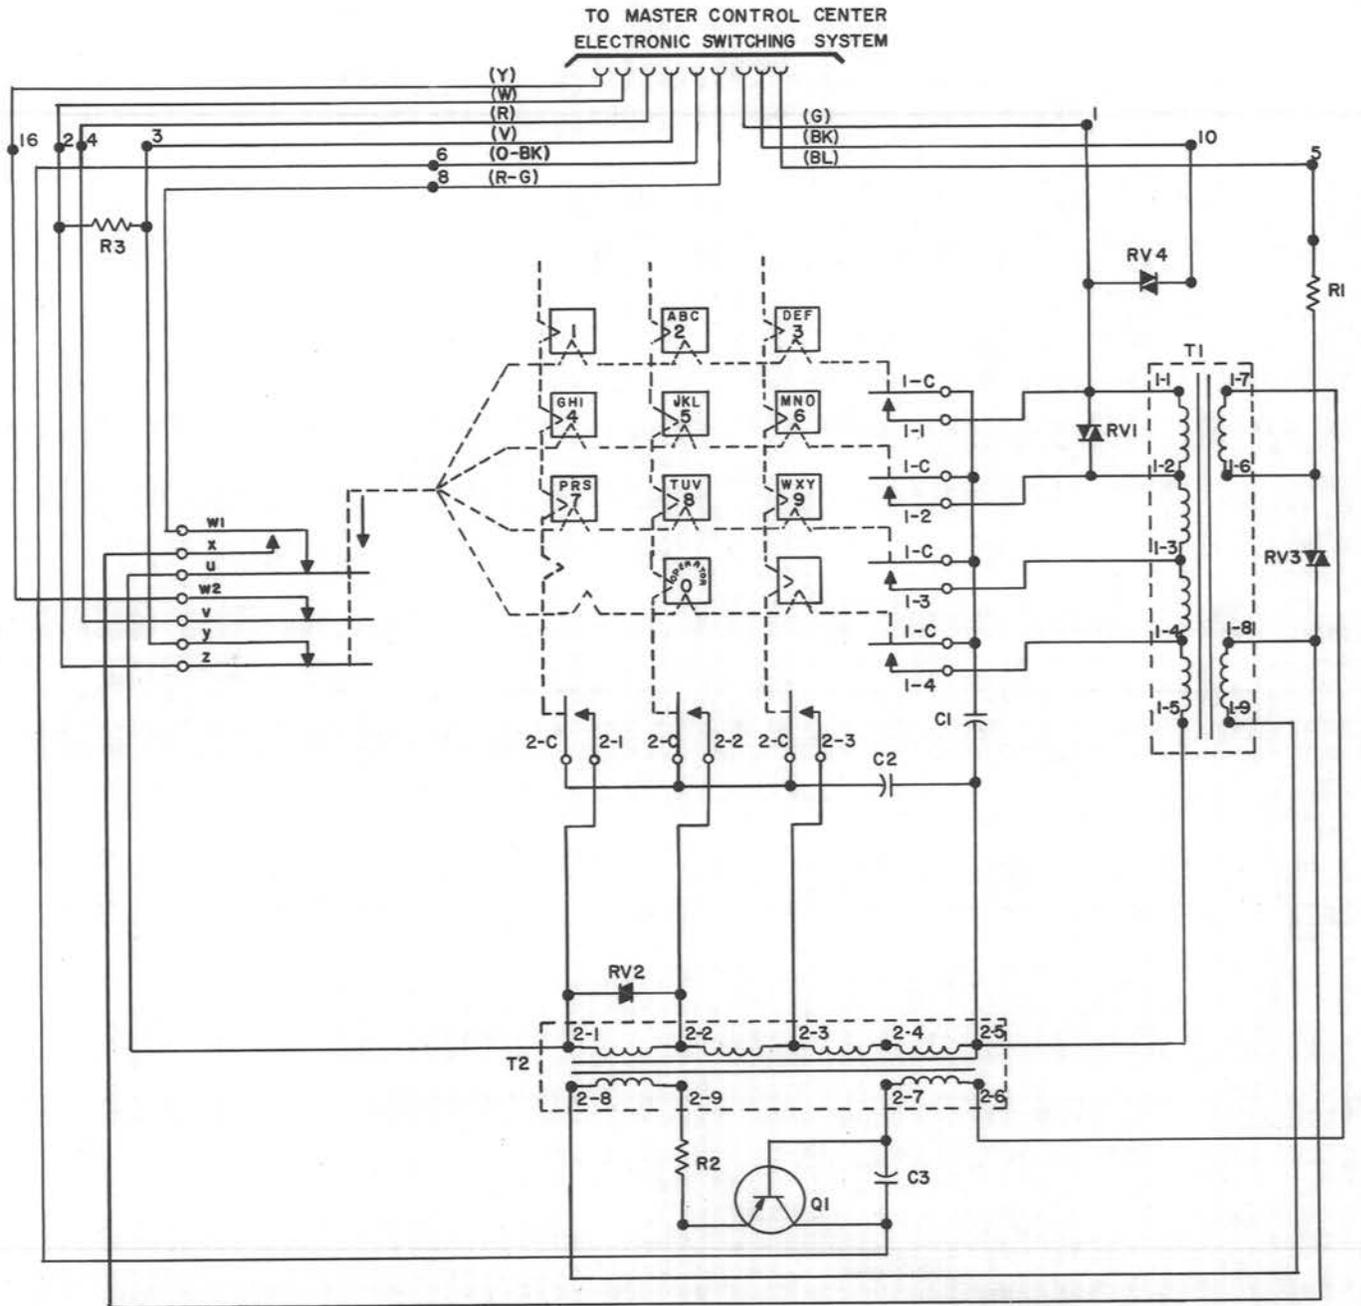

Fig. 5 - 27A3 Dial, Schematic
4.02 A 27A3 dial schematic is shown in Fig. 5.